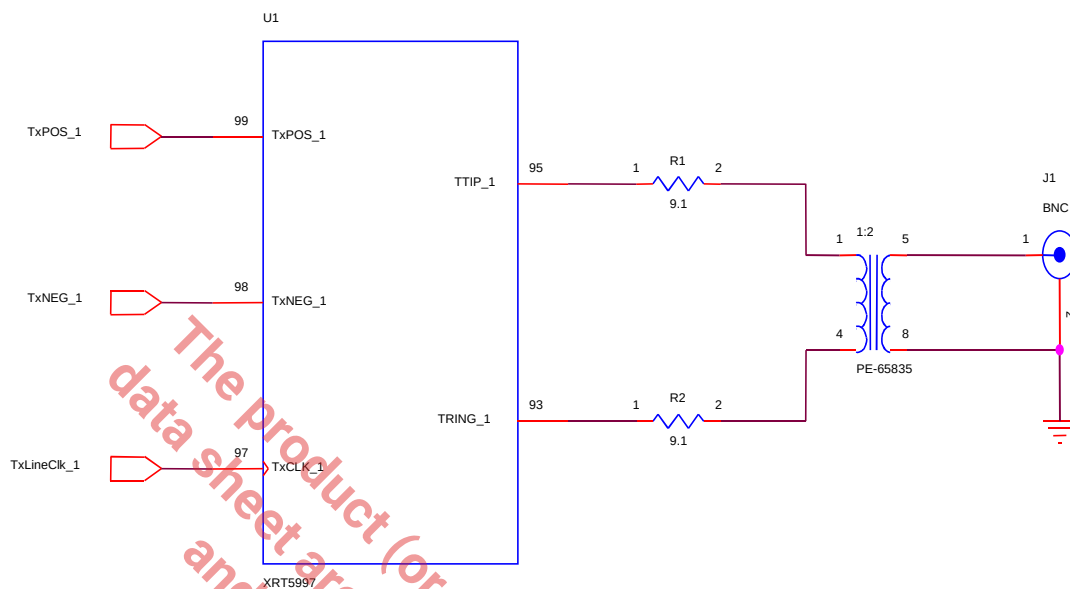

Figure 5. Illustration of how to interface the Transmit Sections of the XRT5997 device to the Line (for “75Ω ” Applications)
1. Figures 5 and 6, indicate that for both “75Ω” and “120Ω” applications, the user should connect a 9.1Ω resistor, in series, between the TTIP/TRing outputs and the transformers.
2. Figure 5 and 6, indicate that the user should use a “1:2 STEP-UP” Transformer.